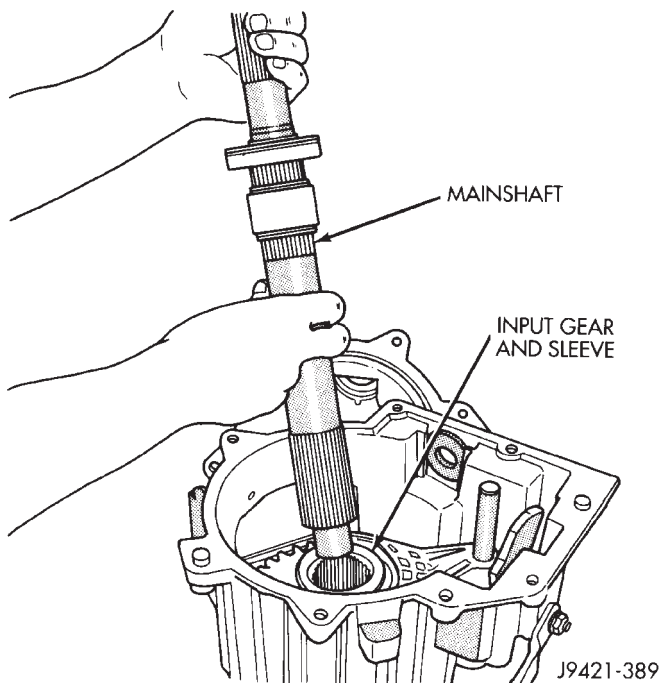

Fig. 27 Mainshaft Removal
(13) Remove mainshaft by lifting it straight up and out of input gear and shift sleeve (Fig. 27).